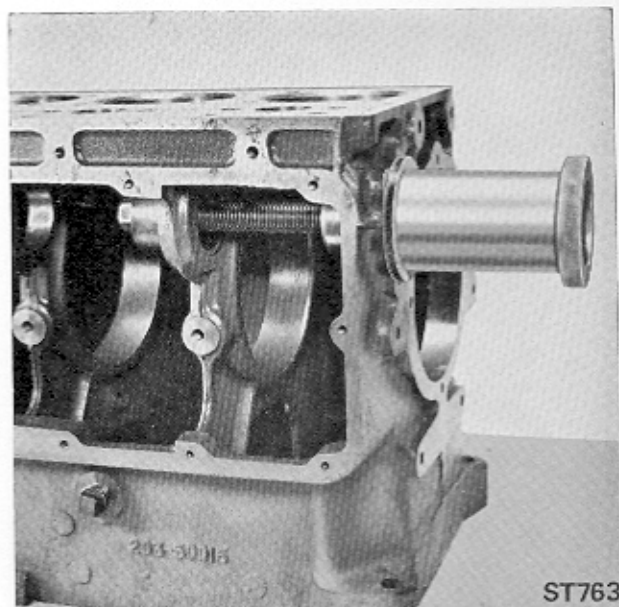

Fig. 133. Removing Centre Bush
**ST2 and ST3 Engines****Removing Centre Bush—Gear End (Fig. 133)**
Figure 133 shows the removal of centre bush at the flywheel end on a multi cylinder engine. The same method is used for centre bush at the gear end but item (4) ring is not required.
- (a) Place plug (1) into bush.
- (b) Fit bolt (8) through washer (5) with recessed side of washer nearest head of bolt.
**Removing Centre Bush—Flywheel End (Fig. 133)**
- (b) Fit ring (4) over projection and insert plug (1). Continue with operations (c) and (d) above.